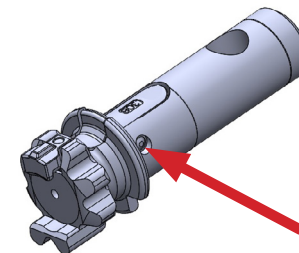

Fig. a-1
1. Place the bolt body on a solid surface and press down on the extractor with your finger behind the rib, right above the extractor pin. Using a 3/32 punch and mallet or brass hammer, press the extractor pin out from the left to the right to remove the pin and release the extractor assembly from the bolt body. (Fig. a-1)